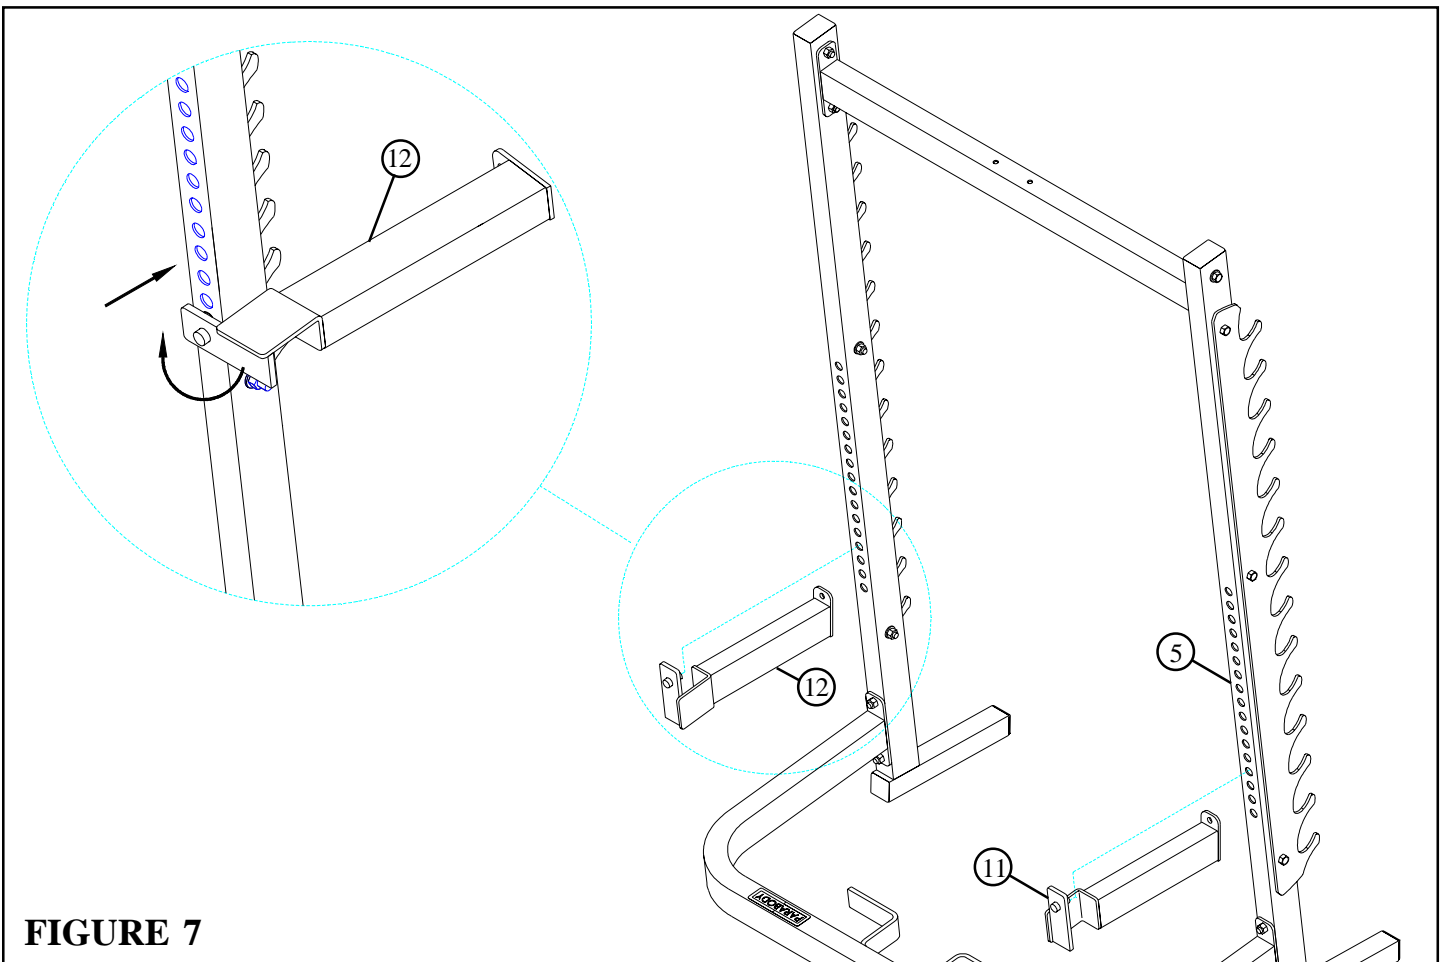

**FIGURE 6**
- Attach six 3-1/4 X 1-3/4" GLIDES (26) to the LEFT & RIGHT SAFETY RAILS (11 & 12) as shown in FIGURE 6, using the following steps:
- Thoroughly clean all surfaces where the 3-1/4 X 1-3/4" GLIDES (26) are to be attached.
- Remove the 3-1/4 X 1-3/4" GLIDES (26) from the paper backing and firmly apply them flush with all shown surfaces.
- Attach two 13-1/2 X 1-5/8" RUBBER STRIPS (25) to the LEFT & RIGHT SAFETY RAILS (11 & 12) as shown in FIGURE 6.